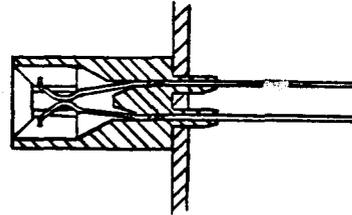

FIGURE 4
2.325 Fig. 4 shows an M13 housing with a pair of the new style shorting pins used in the gold colored housings. These pins are designed so that the contact ends are constrained by the retaining walls of the connector housing. This pin can be identified from the standard M13 pin by the angle of the ears at the end of the contact part of the pin. The ears of the shorting pin are bent at a sharper angle to the contact surface than on the standard contact.